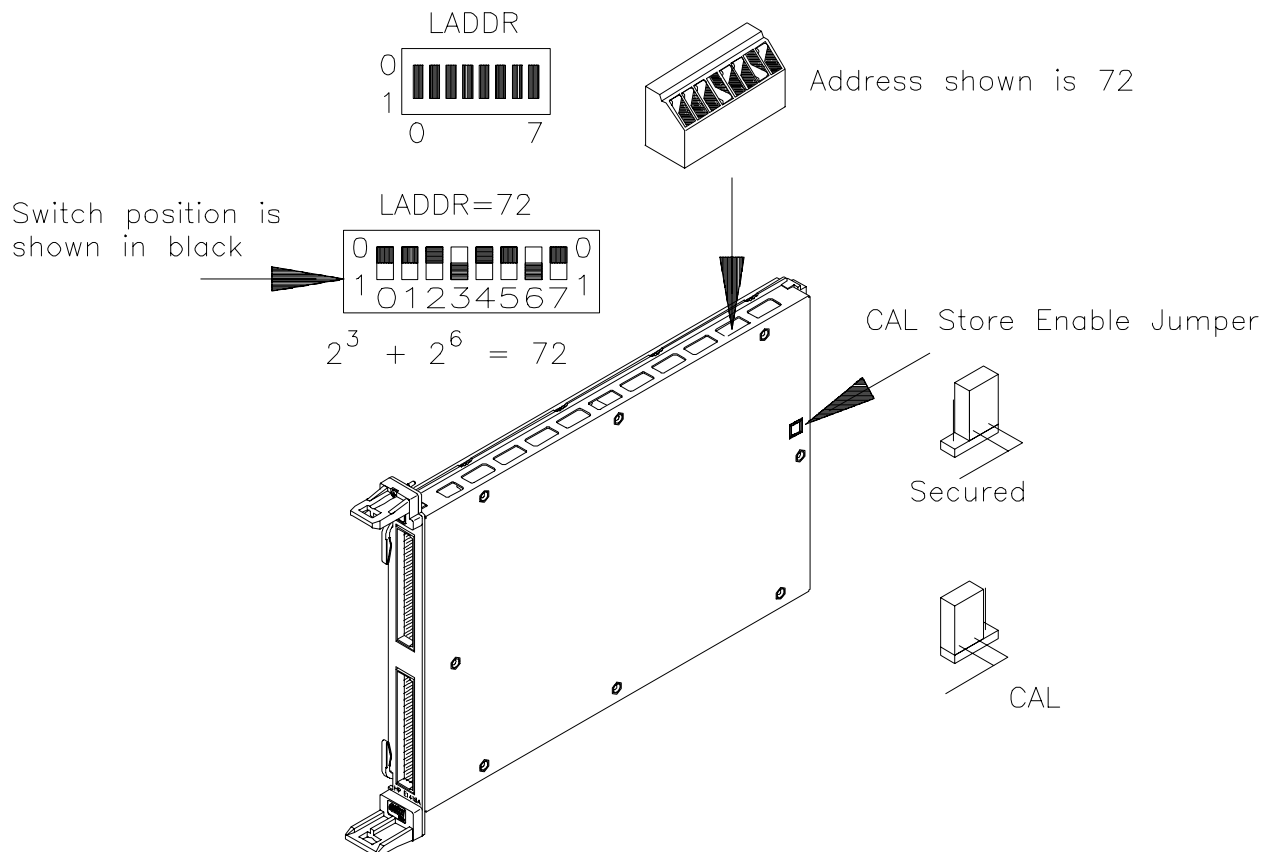

Figure 1-4. Setting the Logical Address
Figure 1-4 shows the logical address switch location and setting. The logical address switch factory setting is 72. Valid addresses range from 1 to 255.
2. Verify or set the logical address switch as shown in Figure 1-4.